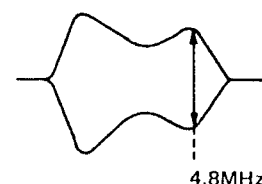

Figure 49.
- ① Maximize the channel-1 head output by using R3307 (channel-1 damping control) and adjust C3305 (channel-1 peaking control) to maximize the output at 4.8 MHz as shown in figure 49.
- ① Make adjustment by using R3305 (channel-2 damping control) and C3306 (channel-2 peaking control) in the same manner as the channel-1 output.
- ② Compare the output wave shape with that of channel-1, and if it is different, re-adjust the output to have the same wave shape as that of the channel-1 output.
- ① Maximize the channel-1 head output by using R317 (channel-1 damping control) and adjust C320 (channel-1 peaking control) to maximize the output at 4.8 MHz as shown in figure 49.